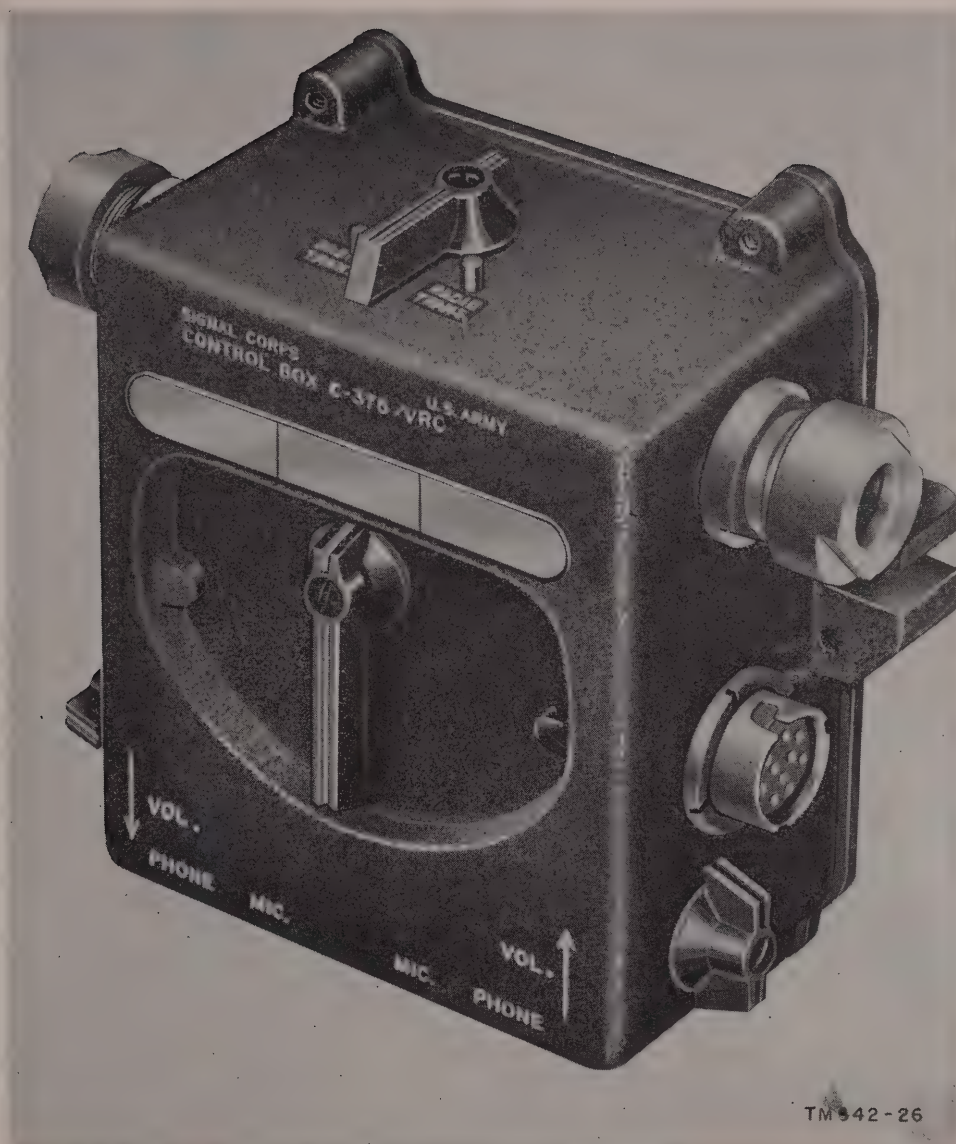

Figure 10. Control Box C-375/VRC.
a. One or more Control Boxes C-375/VRC (fig. 10) are used in every installation of the radio sets described in this manual. One unit is supplied with the basic radio set; additional units may be supplied in the installation kits (par. 7).